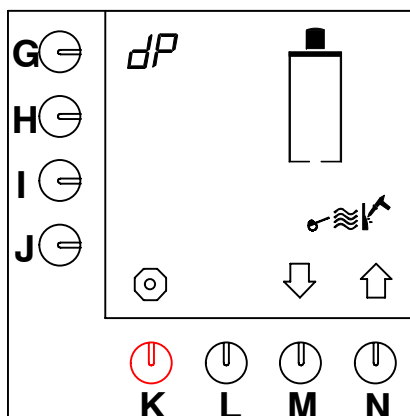

Fig. 18 Starting the descaling programme coffee-making system
- The descaling programme appears on the display (fig. 18 ).
- Hold programming key (G.) down until fig. 18 re-appears on the display.